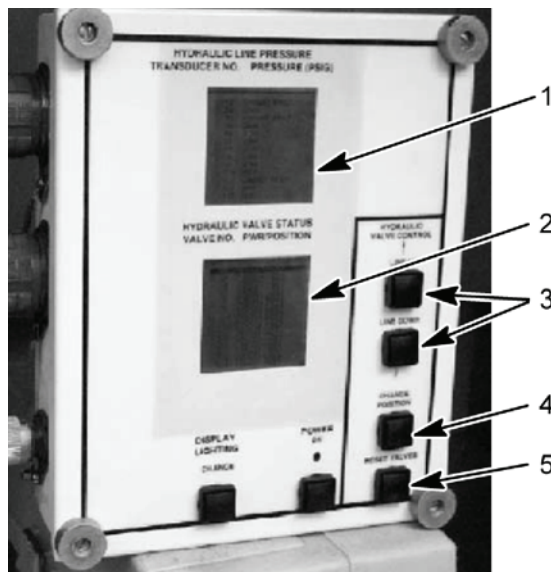

Figure 14. HDC Control Box
- Reset all HDC solenoid valves by selecting the RESET VALVES button (Figure 14, item 5) on the HDC control box.